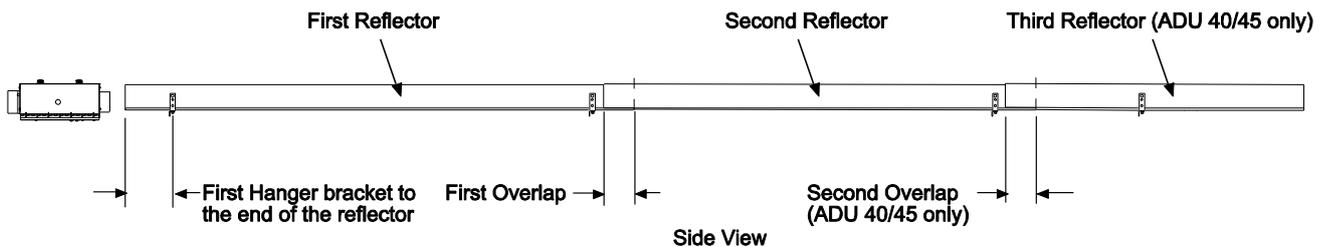

Fig. 21j
9. Position the **lower reflector panels** over the tube support/hanger brackets. Arrange the reflector panels to the dimensions shown in section 7.0. **Note:** The reflectors **MUST** be positioned in accordance with the dimensions stated because the side panels provided with the heater are designed to cover the entire length of the reflectors and therefore if the location of the reflectors does not match these dimensions then the side panels will not fit. See table 14 and figure 21j below: